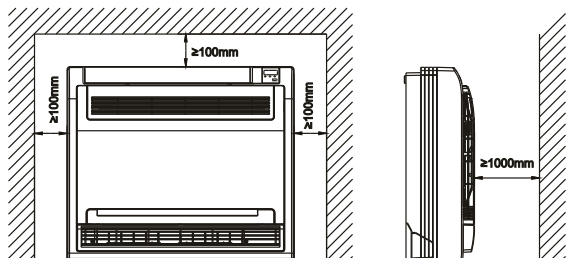

Fig.50-2
- There is enough room for installation and maintenance. (Refer to Fig.50-2 & Fig.50-3)